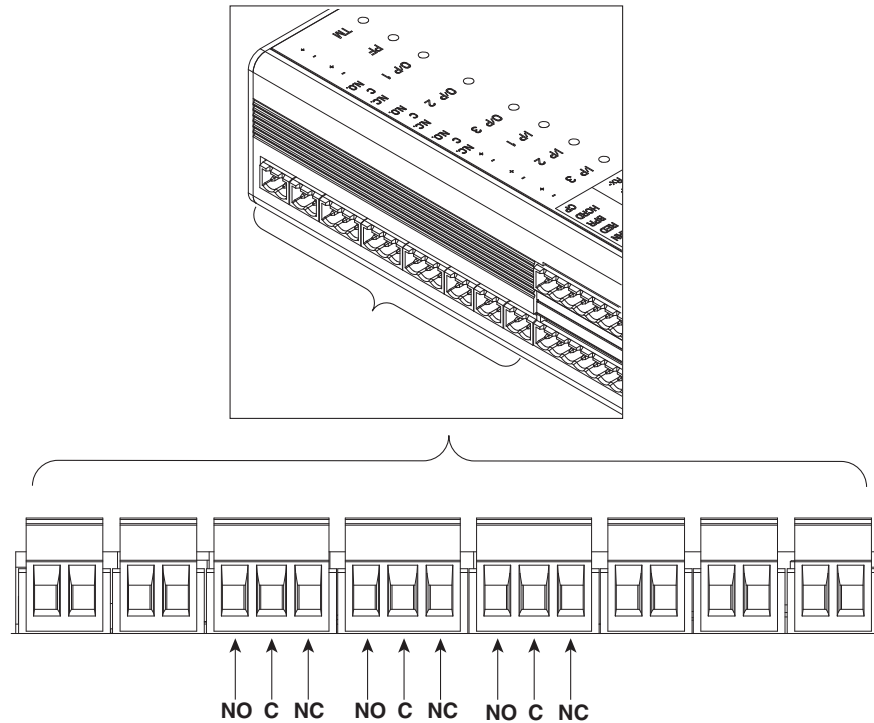

Figure 40: Output Connections: Cisco Physical Access Gateway and Reader Module
8. Connect output devices to the gateway (Figure 40). Each of the three Form C (5A @ 30V) relay output connections can be configured as either Normally Closed (NC) or Normally Open (NO).
- Common (C) is always used, and either NC or NO is used to complete the connection.